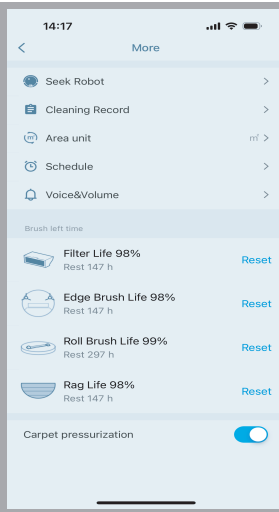

Fig. 13
E). More functions please click the icon  on the main interface and enter the interface of Fig.13, users can set the cleaning schedule, seek the robot, check the cleaning record, turn on / off the voice or switch the